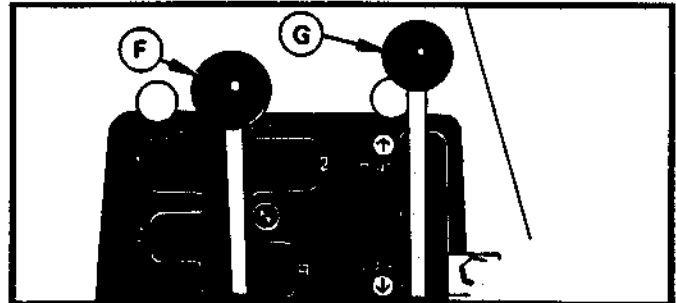

FIGURE 2
(F) SPEED SELECTOR LEVER — FIGURE 2
The Speed Selector Lever is used to select any of three forward gears or one reverse gear. The markings "1, 2, 3" and "R" on the floor plate indicate the locations of the gears. The slowest forward gear is indicated by "1", the secondary gear, "2", and the fastest gear, "3". The "R" indicates reverse. The Speed Selector Lever must be in the "NEUTRAL" position as shown in Figure 2 to start the engine. THIS IS A SAFETY FEATURE.
(G) HIGH-LOW SPEED RANGE SELECTOR — FIGURE 2
2. Place the Speed Selector Lever (F) in the "NEUTRAL" position as shown in Figure 2.